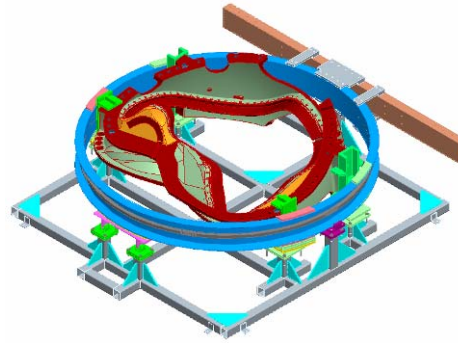

Figure 4-Install Lifting Beam
- Position and secure the support/lifting beam to the joined MCWF and ring support using pneumatic impact wrenches [MCWFA]. (**Figure 4-Install Lifting Beam**)